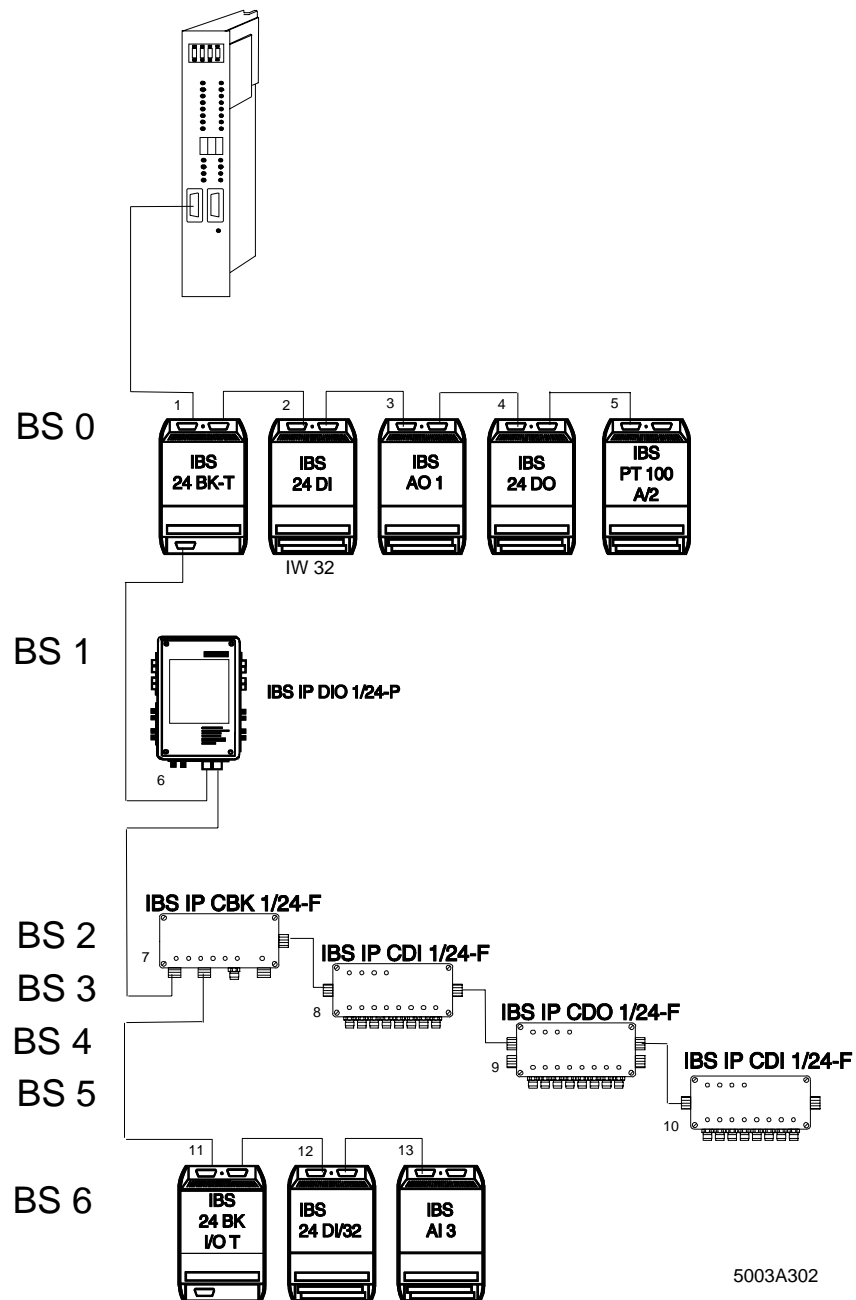

Figure 3-2: Example configuration
Bus terminal modules with I/O functions, BKs for the installation remote bus and installation remote bus modules have their own bus segment number (BS) as shown in Figure 3-2 (BS=7-10).
The bus topology in the example for the PHYSICAL ADDRESSING is identical with Figure 3-2.
The bus topology in this example for the LOGICAL ADDRESSING is identical with Figure 3-2.